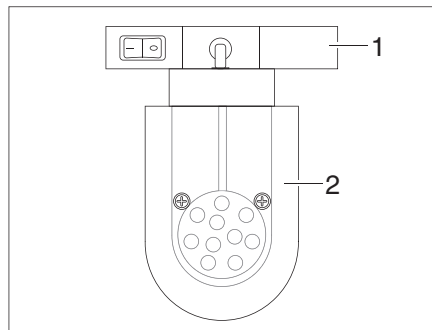

Fig. 140 LED spot light (example)
- Grasp the holder (Fig. 140,1) and turn it 90°.
- Remove the LED spotlight (Fig. 140,2) from the rail system.
- Insert the LED spotlight (Fig. 140,2) into the rail system at the desired position and turn 90°.